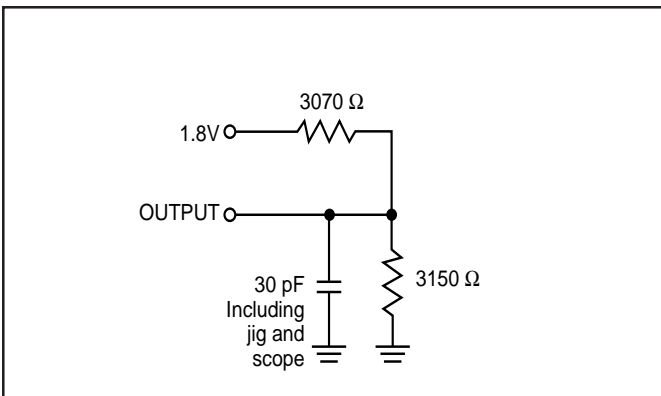

Figure 1
- Test conditions assume signal transition times of 5 ns or less, timing reference levels of 0.9V, input pulse levels of 0.4 to 1.4V and output loading specified in Figure 1.
Output Load	See Figures 1 and 2
1. Test conditions assume signal transition times of 5 ns or less, timing reference levels of 0.9V, input pulse levels of 0.4V to 1.4V and output loading specified in SRAM AC Test Loads: Figure 1